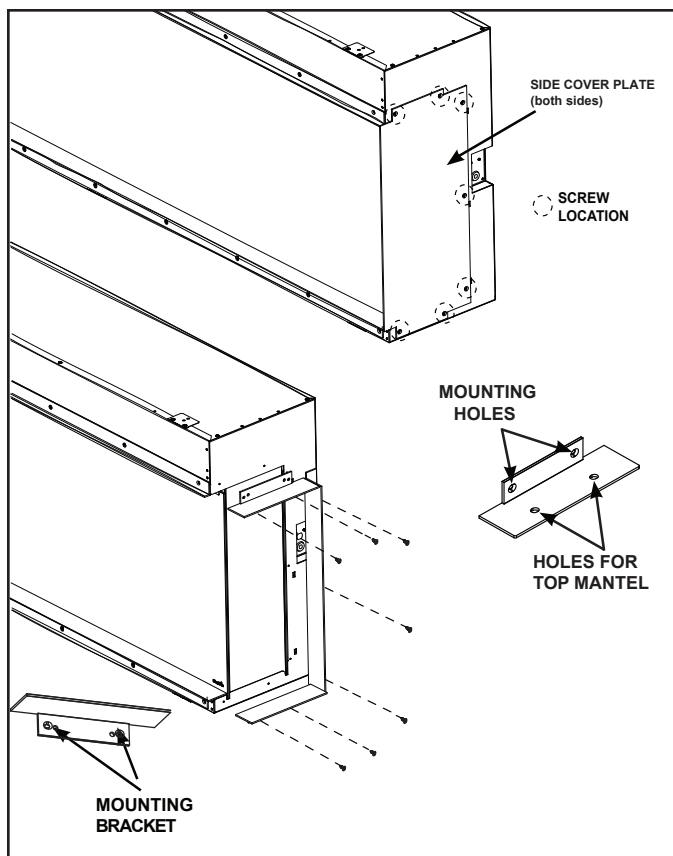

Figure 12
1. Remove flat side cover-plates by removing seven (7) screws on each side. See Figure 12.
Re-use the screws removed from the cover-plates to install and align the 2-inch (51mm) top mounting trim pieces, provided with the mantel kit, on right and left side of the appliance. See Figure 12. Continue by installing the rear and bottom 2-inch (51mm) trim pieces provided with the appliance.
**Note:** The top 2-inch trim has two extra holes for attaching the top mantel, as shown in Figure 12.